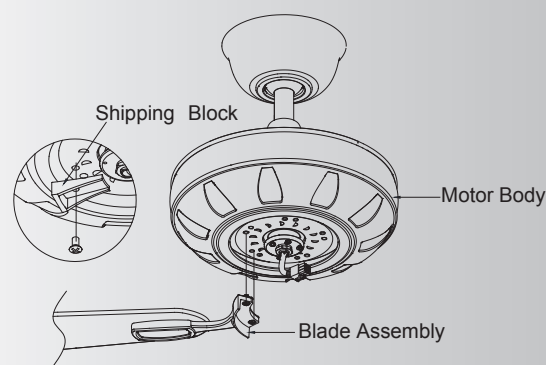

Fig. 17
Step 2. Remove the shipping blocks from the bottom of the motor body and discard. Fasten blade assembly to the holes located on the bottom of the flywheel. Tighten the two "pre-installed" motor screws in the blade arm. Repeat steps for the remaining blades assemblies. (Fig. 17)